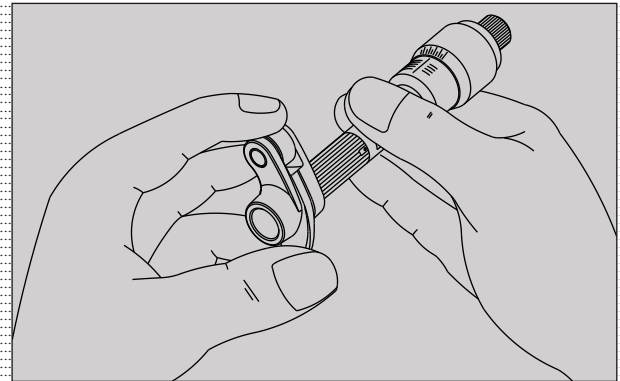

Fig. 3.125
- Inspect arm complete valve rocker (rocker arm) for wear, damage or clogged oil hole. Measure the internal diameter (ID). If ID is more than the service limit, replace the arm. (Fig. 3.125)